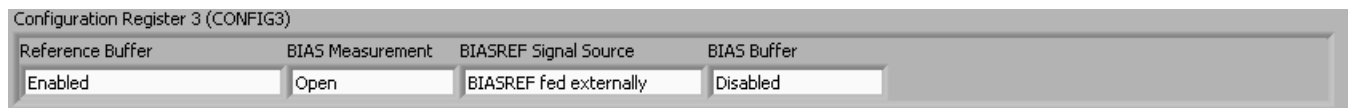

Figure 39. Configuring BIASREF and Bias Drive Buffer
Step 2. Turn on the bias drive buffer and set the internal bias drive reference; refer to Figure 39.